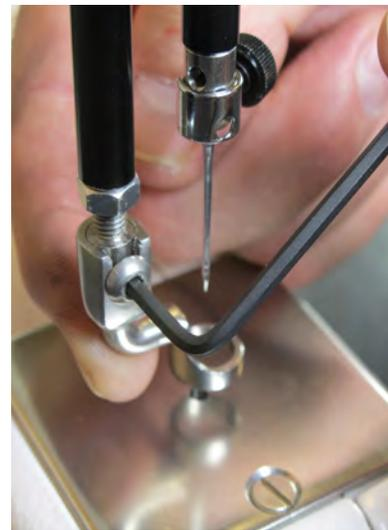

Figure 9
3. Ensure the middle of the foot opening is centered with the needle when the foot is fully tightened with the 2.5mm Allen wrench. If it isn't properly centered, loosen the lock nut; center the foot with the needle; hold the foot in position; and firmly tighten the lock nut (Figure 9).